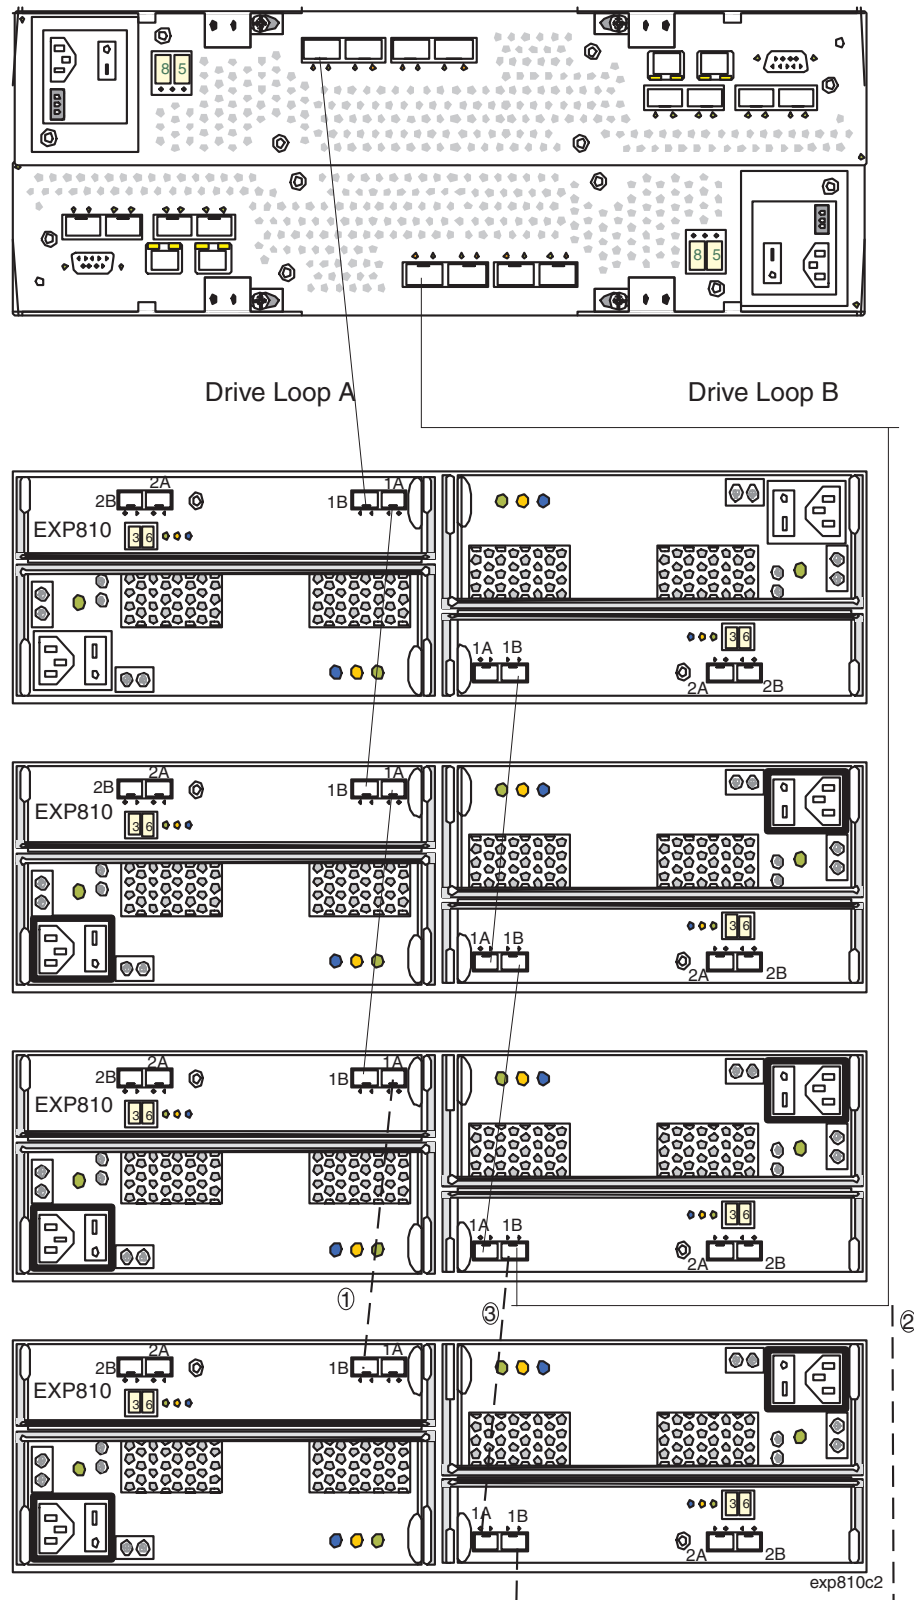

Figure 43. Cabling the EXP810 to an existing and configured drive loop
Figure 43 on page 77 shows an example of a DS4000 storage subsystem configured with redundant drive loop pairs.
The dashed lines in Figure 43 show how to add a new EXP810 to an existing DS4800 configuration with EXP810s. To add the new EXP810 shown in Figure 43, perform the following steps:
4. Make the fibre-channel connection marked 1 in Figure 43 on page 77 (drive loop A) by connecting port 1A of the existing EXP810 to port 1B of the new EXP810. Then verify that it is recognized by the Storage Manager software GUI.
5. Move the existing fibre-channel connection marked 2 in Figure 43 on page 77 from the existing EXP810 enclosure ESM port 1B to the new EXP810 enclosure ESM port 1B.
6. Make the fibre-channel connection marked 3 in Figure 43 on page 77 (drive loop B) by connecting port 1A of the new EXP810 to port 1B of the existing EXP810.